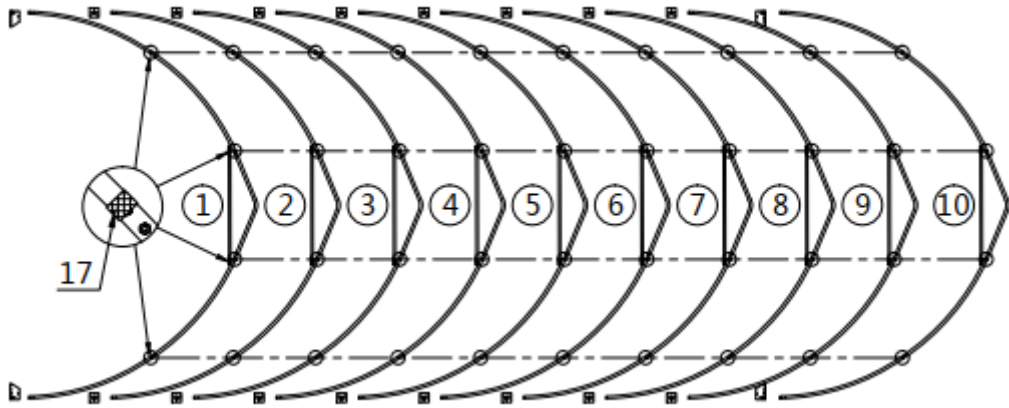

Figure 3
- Lay down all (10) trusses on the ground when the assembly is all completed and before moving to next step, and then wrap (#17) around the sharp points of the joint to avoid friction between the fabric and the interface, resulting in fabric damage (refer to figure 3).
(2) Scratch resistant tape (#17)